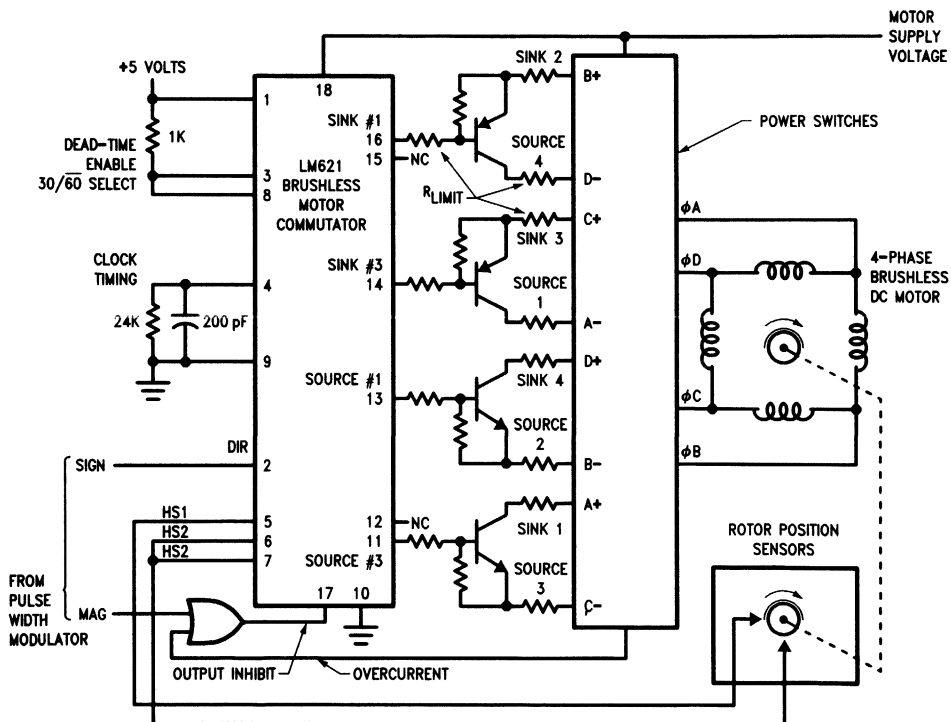

FIGURE 6. Commutation of Four-Phase Motor
**Note 2:** For four-phase motors sink and source outputs number two (pins 15 and 12) are not used; hence the "na" (not applicable) in the appropriate columns above. *Figure 6* shows how the required sink and source outputs for four-phase motors are derived.
Figure 6 is typical of the circuitry used to commutate a four-phase motor using the LM621. This application is seen to differ from the three-phase application example in that the LM621 outputs are utilized differently. Four-phase motors require four-phase power switches, which in turn require the commutator to provide four current-sinking outputs and four current sourcing outputs. The 18-pin package of the LM621 facilitates only three sinking and three sourcing outputs. The schematic shows the 30/60 SELECT input in the 30-degree select state (pin 8 high) and rotor-position sensor inputs HS2 and HS3 connected together. This connection truncates the number of possible rotor-position input states to four, which is consistent with the 90-degree quadrature rotor-position signals provided by four-phase motors. With the LM621 outputs connected as shown, this approach provides the needed power-switch drive signals for a four-phase motor. Note that only four of the six LM621 outputs (SINK #1 and #3, and SOURCE #1 and #3) are used